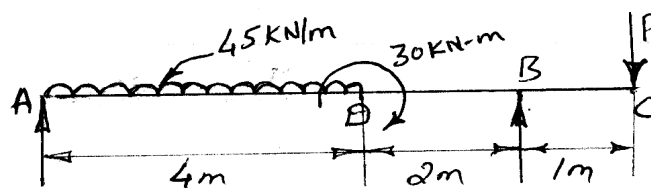

Fig. 3, Q. No. 6.(b)
- b. For the beam shown in Fig. 3. Determine the magnitude of the load P acting at C. Such that the reaction at support A and B are equal. Draw shear force and bending moment diagram, indicating the values at salient points. Locate the point of contra-flexure, if any.